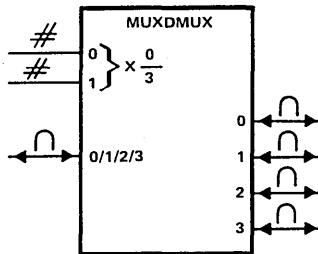

Figure 11. Analog Data Selector (Multiplexer/Demultiplexer)
-Input for analog signals (on a digital symbol) (see Figure 11)
# Input for digital signals (on an analog symbol) (see Figure 11)